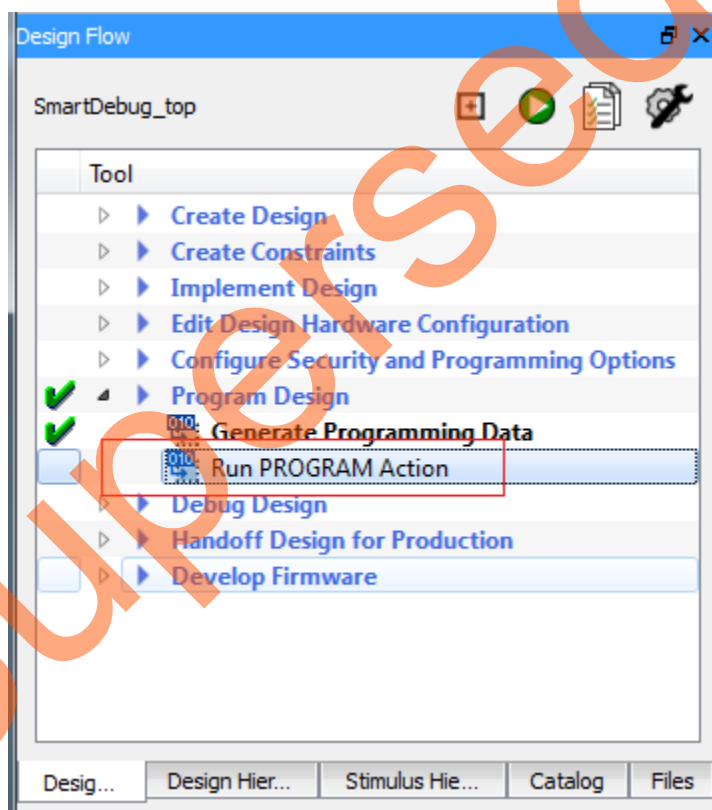

Figure 2-1 • Programming the Device
6. In the **Design Flow** window, select **Run PROGRAM Action**. This will program the design into the device, as shown in Figure 2-1.